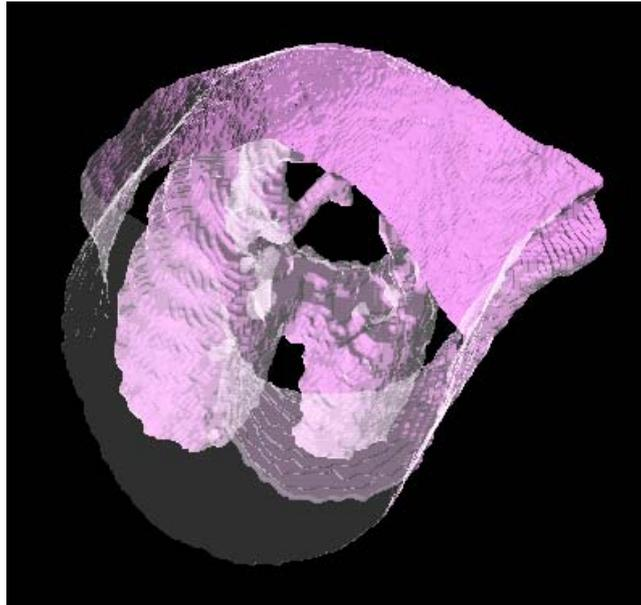

Figure 22-1. Surface Models of a Mouse Thorax (Skin, Muscle and Lung) in MOSE
2. When all the tissues have been added, click the button , then the surface models of these tissues will be shown together as that in the real animal body in translucent mode.(See Figure 22-1, the muscle together with the top/bottom section of the skin are hidden for better view)